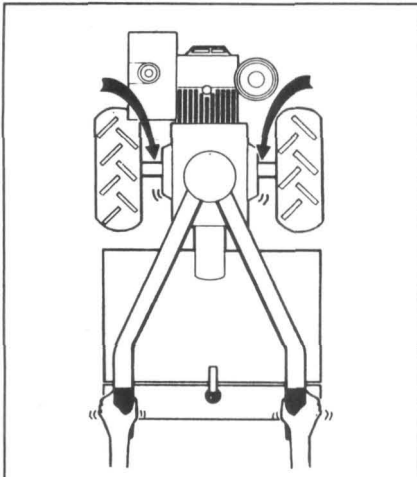

Figure 3-1: Pre-Disassembly Inspection of the Wheel Shaft.
- Grasp the tiller's handlebars and tilt the tiller forward so its weight is resting entirely on the wheels and move the tiller side-to-side. See Figure 3-1.